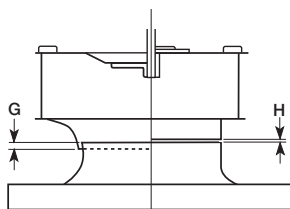

Figure 7 - Wheel Overlap and Gap Dimension
- Check all fasteners and setscrews for tightness. The wheel should rotate freely and be aligned as shown in Figure 7.